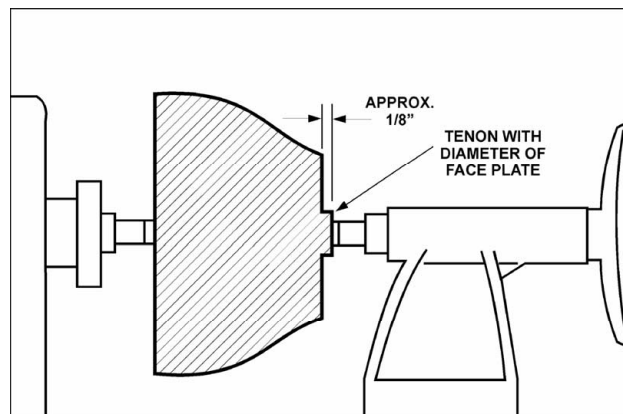

Fig. 21
3. Slip the spur center into the headstock taper and bring the tailstock, with a live center, into position. Lock the tailstock to the bed and advance the spindle in order to seat the cup center into workpiece, see Figure 21. Tighten the quill lock.
8. As the bowl takes shape, work on the bottom (tailstock end) to accommodate attaching a face plate, see Figure 21.
9. Turn a short tenon (about 1/8" long) the size of the hole in the faceplate, see Figure 21. This will allow centering the workpiece when the faceplate is attached. **Note:** If you plan to use a chuck, turn a tenon of appropriate length and diameter to fit your chuck.